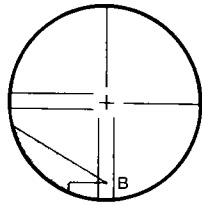

Fig. 13.18
- 2) Turn the telescope slowly upward with the vertical fine motion screw ① until the target slides to the lower part B, Fig. 13.18. If the target is still centrally within the vertical lines no adjustment is necessary. If necessary, adjust as follows.